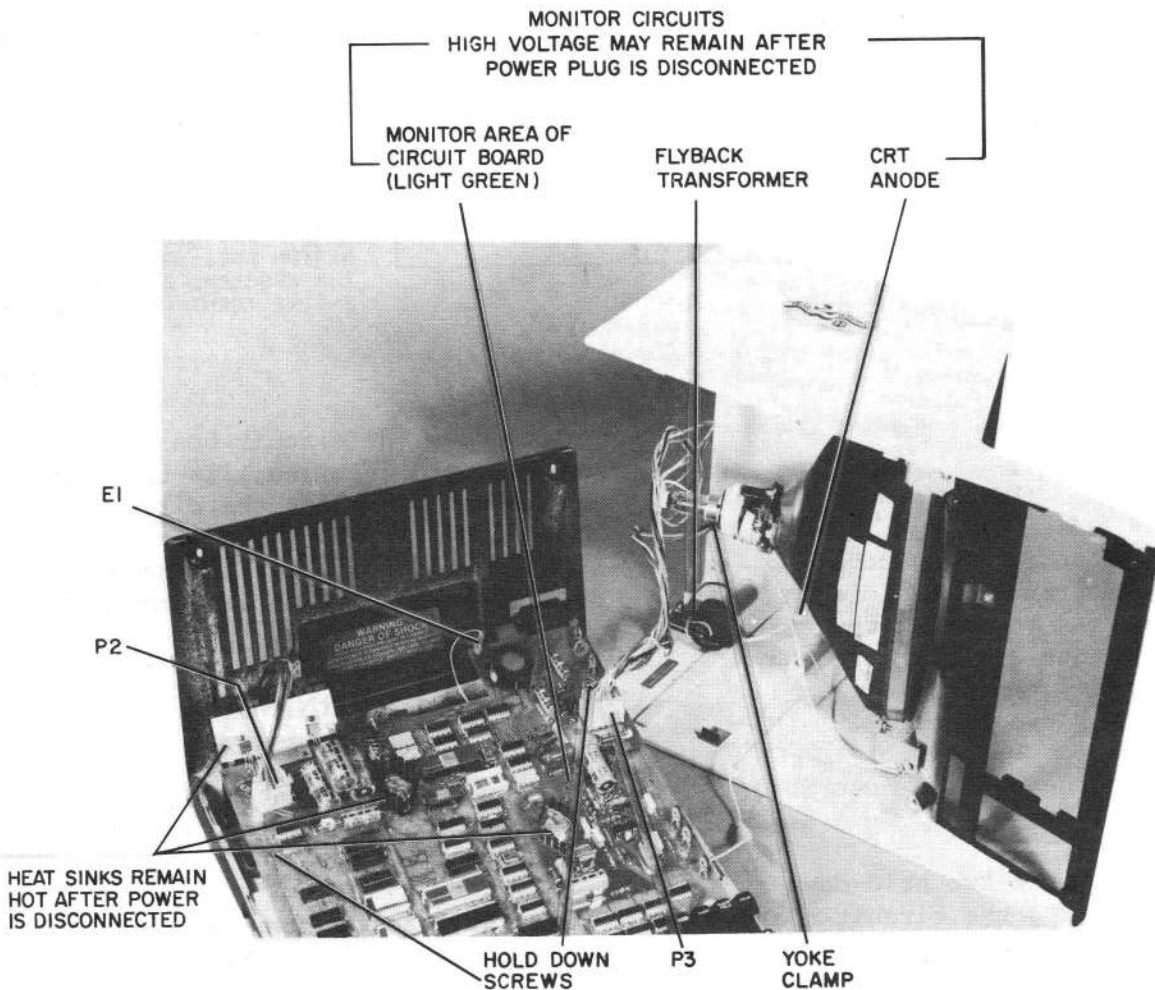

Figure 6-2. Terminal, Open, Ready for Servicing
Dangerous voltage (12,000 vdc, 500 vdc and 100 to 240 vac) are present in the Video Display Terminal. Some voltage may remain present in the monitor circuits (see figure 6-2) after power is disconnected. Use caution when working on internal circuits. Do not work alone.
d. Carefully lift the cover (with the cathode-ray tube (crt)) off the base and set it immediately to the right of the base. There is enough slack in the wiring to lay the cover on its side alongside the base as shown in figure 6-2.
b. Loosen the two hold-down screws securing the circuit board to the base (figure 6-2).
Dangerous voltages (12,000 vdc, 500 vdc and 100 to 240 vac) are present in the Video Display Terminal. Some voltage may remain present in monitor circuits after power is removed (see figure 6-2). Use caution when working on internal circuits. Do not work alone.
- (1) Note the direction and amount of tilt.
- (2) Disconnect the power plug and open the unit as described in paragraph 6.3.
(3) Wait 5 minutes and then loosen the screw securing the clamp on the neck of the tube (figure 6-2).
(4) Rotate the yoke in the direction and distance necessary to correct the tilt noted in step (1) and tighten the screws. (The display will rotate the same distance and direction as the yoke is rotated.)
(5) Place the cover on the base, plug in the power plug, set the power switch to ON and check the display. Repeat steps (1) through (4) if necessary.
(6) Set the power switch to off and reassemble the unit by reversing the procedure of paragraph 6.3.
b. Disconnect connector P2 at the left rear of the circuit board (figure 6-2). This is done by squeezing the sides of the connector to release the latch and pulling straight up.
h. Connect the single green wire to terminal E1 (figure 6-2) by pressing the clip onto the terminal.